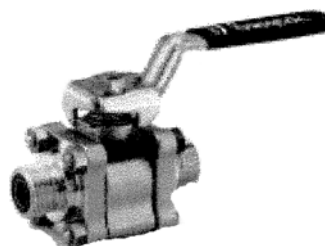

Figure 6-5. 1½-Inch Isolation Ball Valve (SS-67TF24)
4. 1½-Inch Isolation Ball Valve (SS-67TF24) (see Figure 6-5). The following 1½-inch valves are manufactured by Whitey Co. and distributed by Swagelok. These valves are generally hull component isolation valves. These are Swagelok Series 60 valves and are repaired or replaced in accordance with the procedures listed in sections 6-6.2.1 through 6-6.2.3.